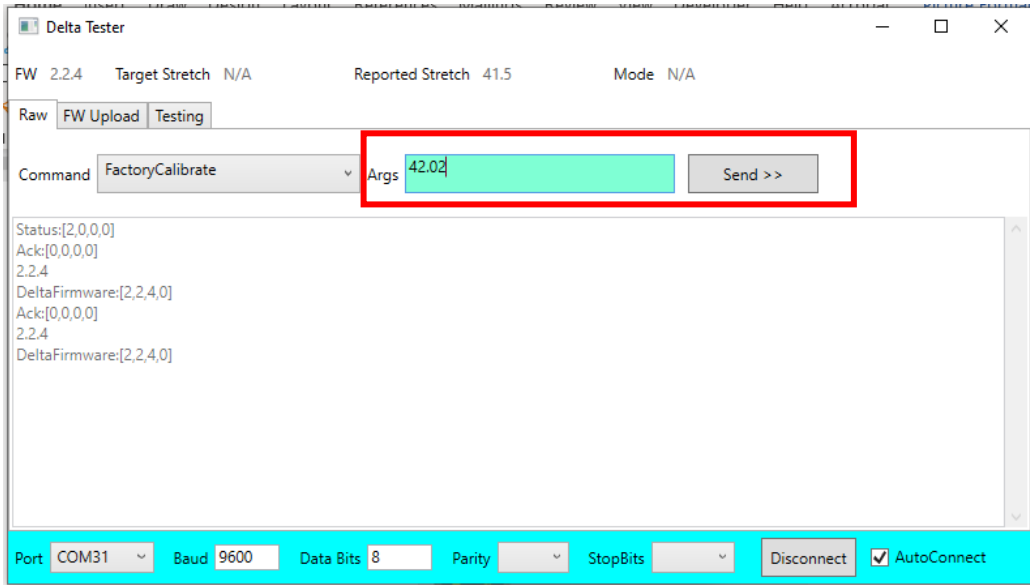

Figure 8: Entering the stretch value in the Args box.
11. Input the stretch value into the 'Args' box as shown in figure 8, and press 'Send'.